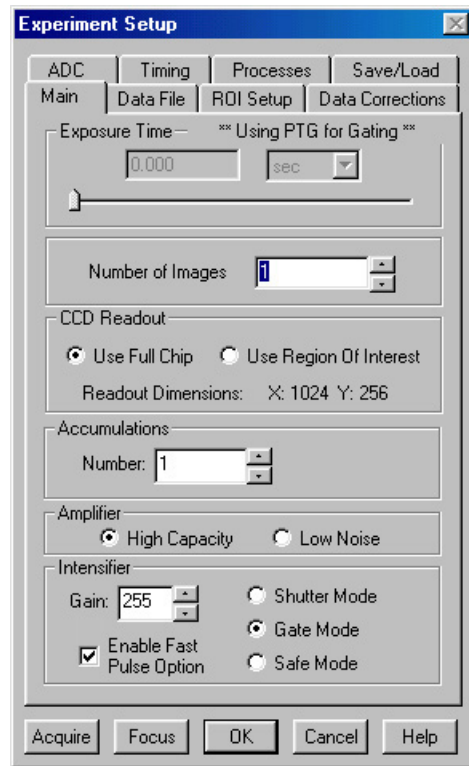

Figure 38. Experiment Setup|Main tab
1. Enable the 500 ps gating option by selecting the "**Enable Fast Pulse Option**" checkbox on the **Experiment Setup|Main** tab (see Figure 38). Wait about 10 minutes before taking data to ensure that the acquired data will be valid.